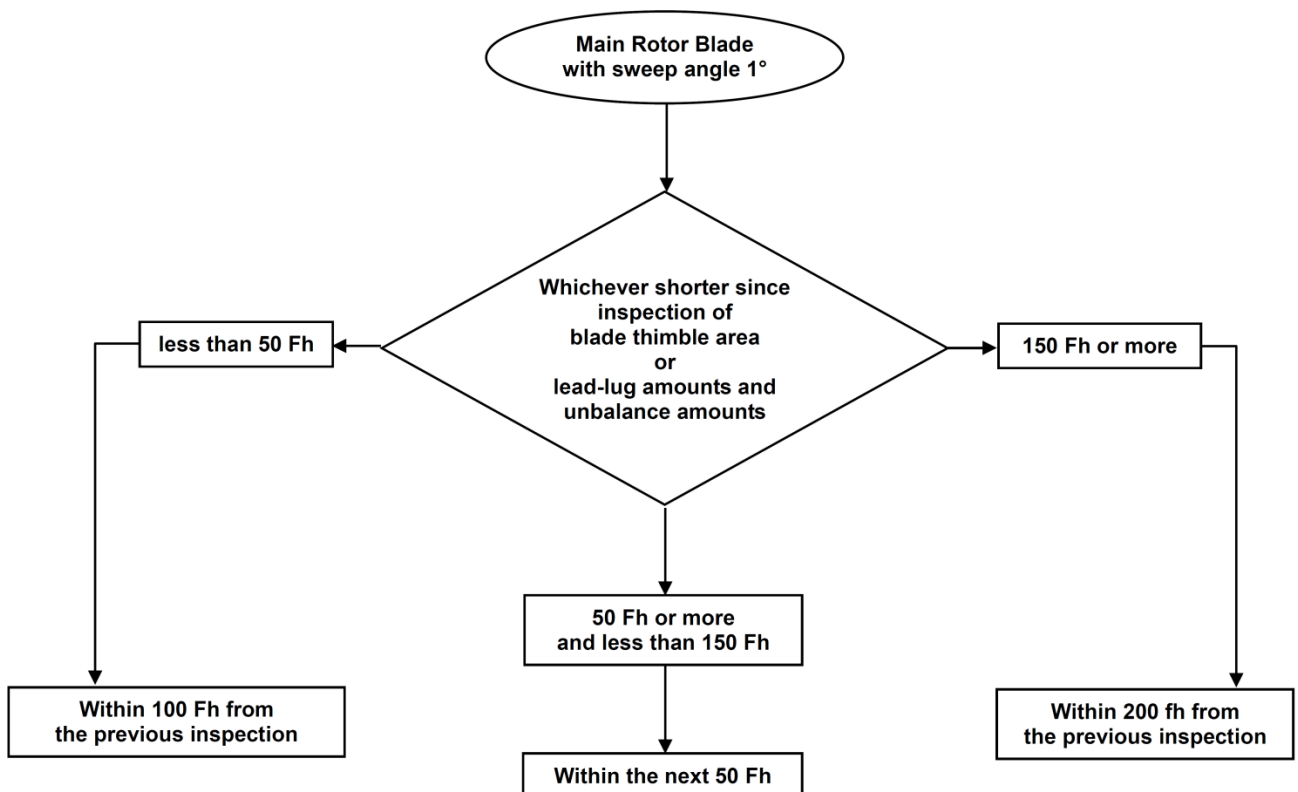

Figure 1 Determination of Initial Inspection Time (Blade with Sweep Angle 1°)
(1) Main Rotor Blades Installed on Helicopters
- (c) If the configuration of main rotor blade is sweep angle 1° and KSB-117-192 **has not been accomplished**, use the flow chart in Figure 1 to determine the Fh until the initial inspection of the blade thimble.